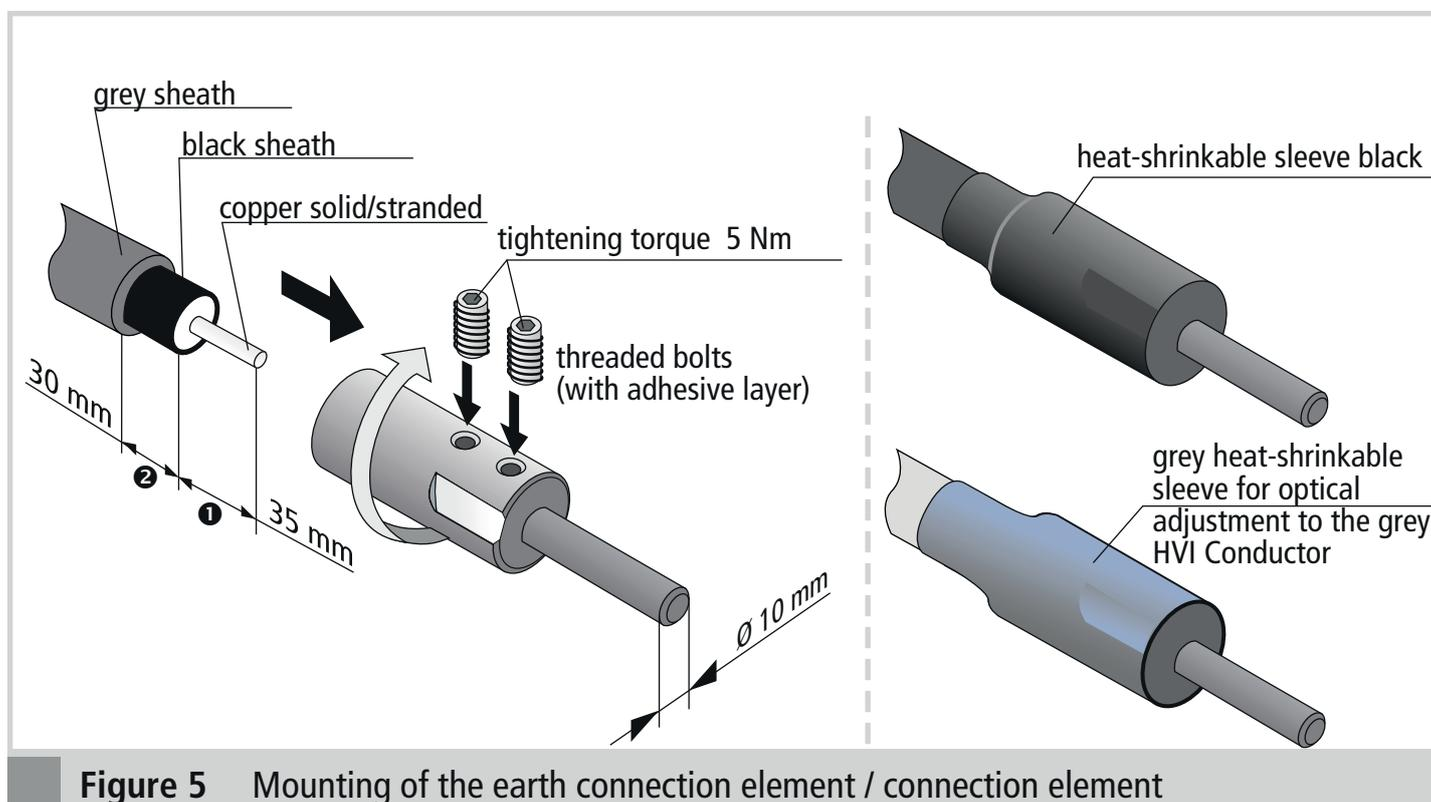

Figure 5 Mounting of the earth connection element / connection element
The end of **HVI®Conductor I/III** or **HVI®long Conductor** may be shortened on site, however, not extended. After shortening the **HVI®Conductor** it has to be prepared again for the mounting of the earth connection element/connection element as shown in Figure 5.
❶ Strip off 35 mm of the insulation of the black **HVI®Conductor** and push the conductor by turning into the earth connection element/connection element. Tighten the threaded bolts and enclose the connection element with the heat-shrinkable sleeve. With the HVI® strip 20 tool (Part No. 597 220) the outer sheath and the PE insulation can be stripped easily and safely without damaging the solid / stranded copper conductor. Using the tool is required in case of stranded conductors .
❷ The grey sheath of the **HVI®Conductor**, e.g. Part No. 819 023, 819 025 or 819 136 has to be additionally stripped by 30 mm (Figure 5) for the underneath black sheath to be contacted. The black sheath shall not be cut in. Mounting shall be implemented as shown in Figure 5.